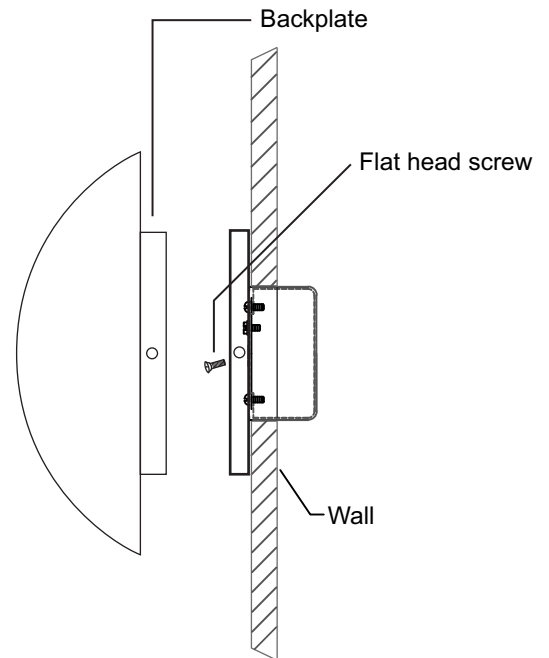

FIGURE-02
5. Attach the fixture to the mounting plate and secure it with flathead screws (See Figure-02)